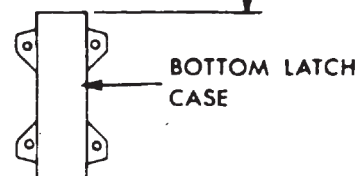

FIG. 1A
1. CHECK RODS FOR CORRECT LENGTH. (Figure 1A)